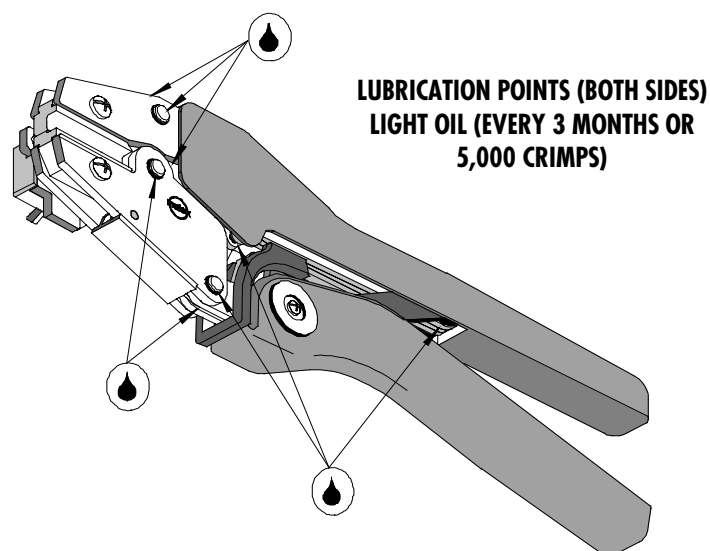

Figure 4
3. Make certain all pins; pivot points and bearing surfaces are protected with a thin coat of high quality machine oil. Do not oil excessively. The 64003-1200 (RHT-1752) was engineered for durability, but like any fine piece of equipment it needs cleaning and lubrication for a maximum service life of trouble-free crimping. A light oil such as 30 weight automotive oil used at the oil points shown in Figure 4, every 5,000 crimps or 3 months will significantly enhance the tool life and ensure a stable calibration.